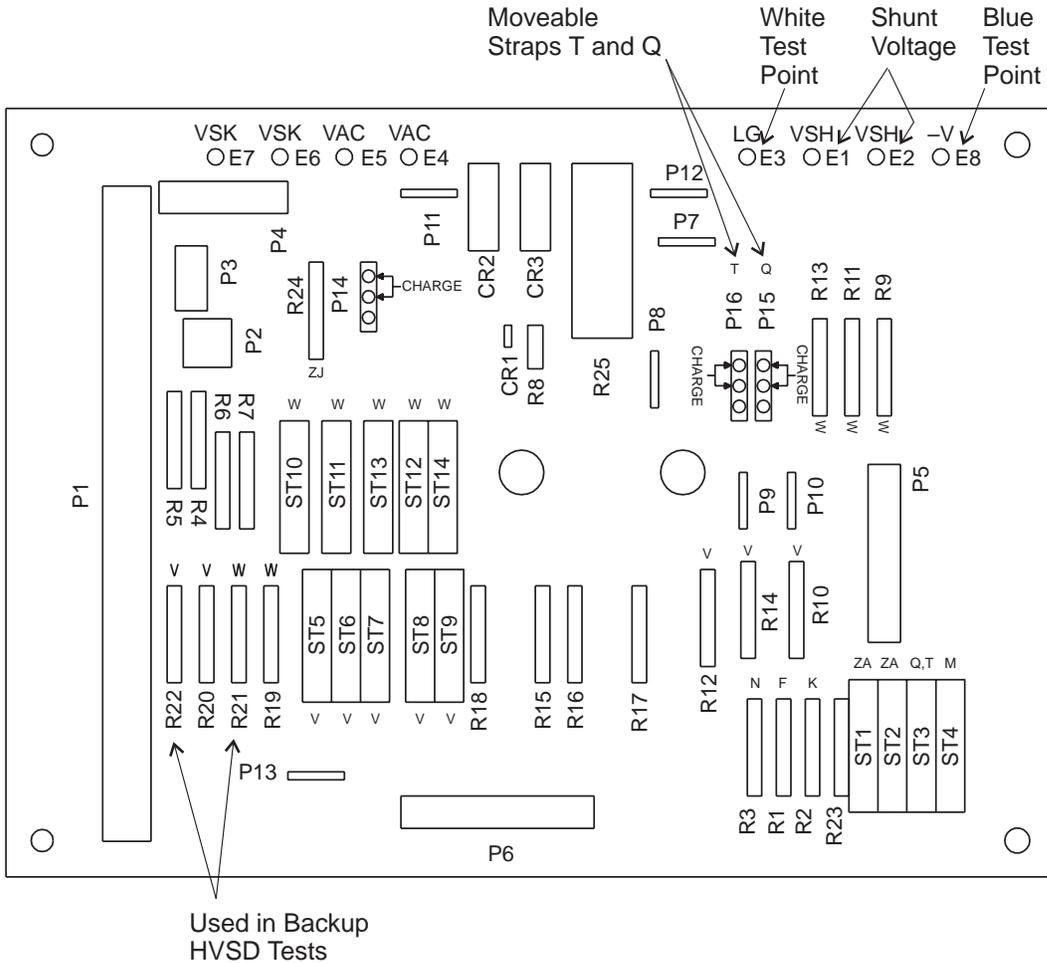

Figure 6-2: CM1 Option Board (ED83158-30 Grp 2, A) Showing Test Clip Connections and Movable Straps "Q" and "T"
2. Move the straps provided for options “Q” and “T” (P15 and P16) on the **CM1** option board from normal position to charge position as shown in Figure 6-2.
4. Place the Battery Plant Simulator Test Set (Figure 6-1) at a convenient location near the rectifier. Connect **J2A**, on the other end of the cable from the test set, to connector **P2A** on the **CM2** control board, which is mounted on the inside of the rectifier door. Connect the red, black, blue, and white test clips from the test set to the **CM1** and **CM2** boards in the rectifier as detailed in Table 6-B. Refer to Figures 6-2 and 6-3.
2. Disable the internal selective shutdown by moving the “Q” (**P15**) or “T” (**P16**) movable straps on **CM1** to the Charge position (see Figure 6-2). Verify that moveable strap **P14** remains in the 2-3 (NOT the Charge) position for this test and after the rectifier is placed into service. The **P14** Charge position is only used to raise the Backup HVSD level of the rectifier when it is being used for applying the initial charge to connected batteries.